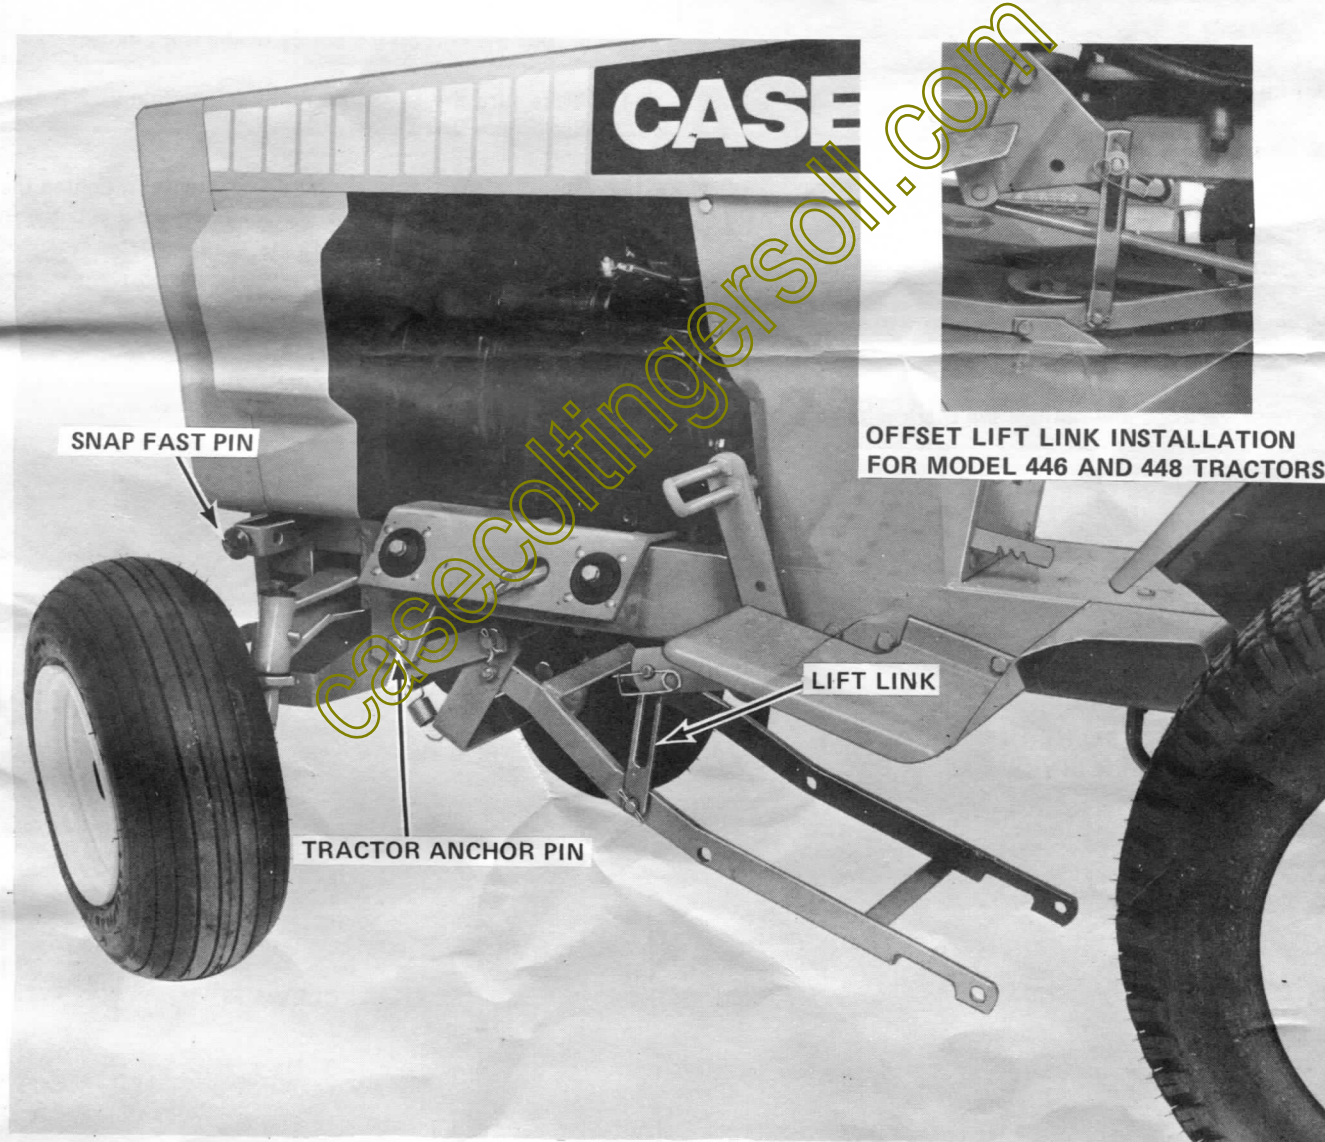

FIGURE 13 MOUNTING THE K-45 MOWER MOUNTING BRACKET
3. See Figure 13. Put the mounting bracket under the front of the tractor. Raise and install the mounting bracket on the mounting pins. Align the holes in the mounting bracket with the "snap fast pins". Release the "snap fast pins" to hold in place.
4. Completely lower the lift arms on the tractor. On all models except the 446 and 448, put the lift links on the inside of the lift arm. See Figure 13. Put a plain washer on the clevis pins. From the inside install: